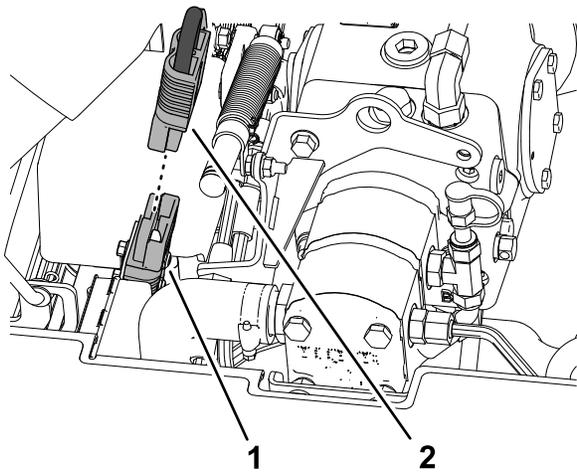

Figure 5
2. Unplugging the 48 VDC system battery-disconnect jumper (Figure 5).